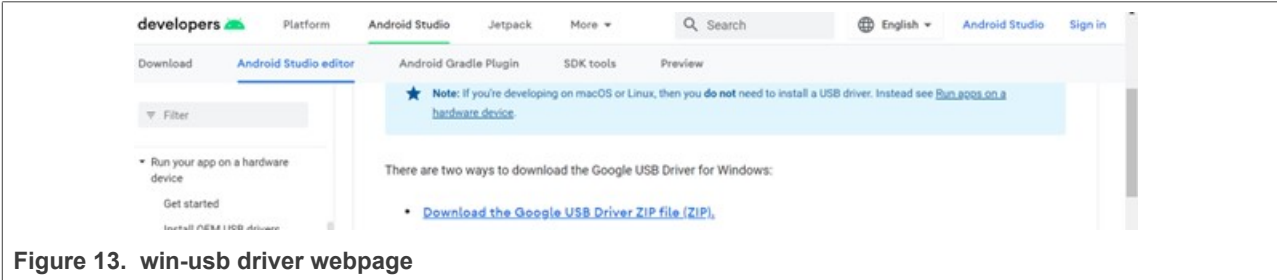

Figure 13. win-usb driver webpage
1. Choose the driver from the webpage [7] (see Figure 13).